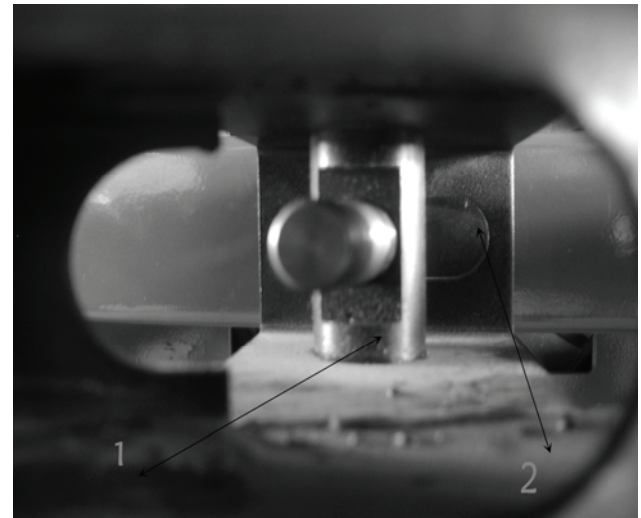

FIG 10
- STEP 6: Position the bead breaking arm shaft bushing into the bead breaking support plate on the body (Fig 9-1) to align the hole and install the bead breaking bolt (Fig 9-2) and assemble the nut to lock (Fig 8-4). Insert the piston rod (Fig 10-2) through the hole of the bead breaking slide bushing (Fig 10-1). The surface of the slide bushing should be facing outwards (Fig 10). Assemble the removed nut (Fig 8-1) into the front end of the piston rod. The nut will be assembled. The distance from the edge of the bead breaking blade to the bead breaking rubber is 1.2" - 1.5" (Fig 11). Hang the spring (Fig 9-3). Open the side panel and insert the 2 pieces of Ø12 hose at the inlet of the quick deflation valve into the 2 Ø12 nozzle and then replace the side panel.